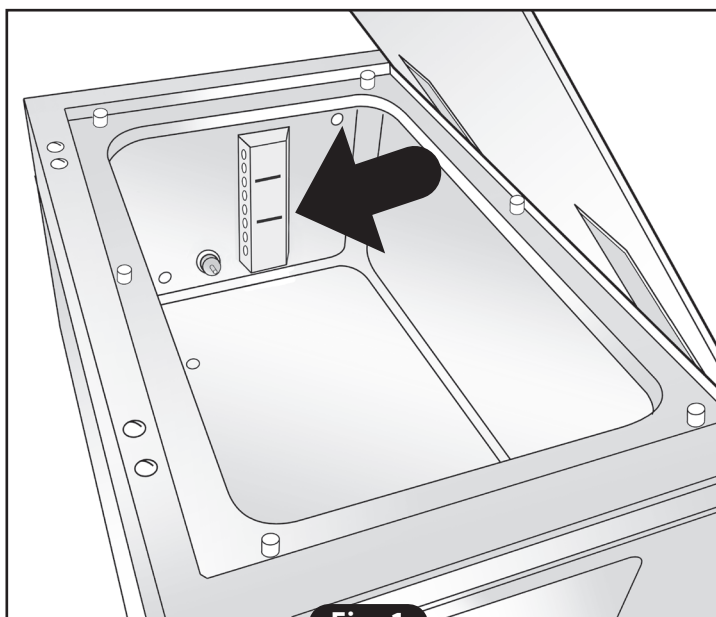

Fig. 1
- Level indicator of Basic version (**Fig. 1**).